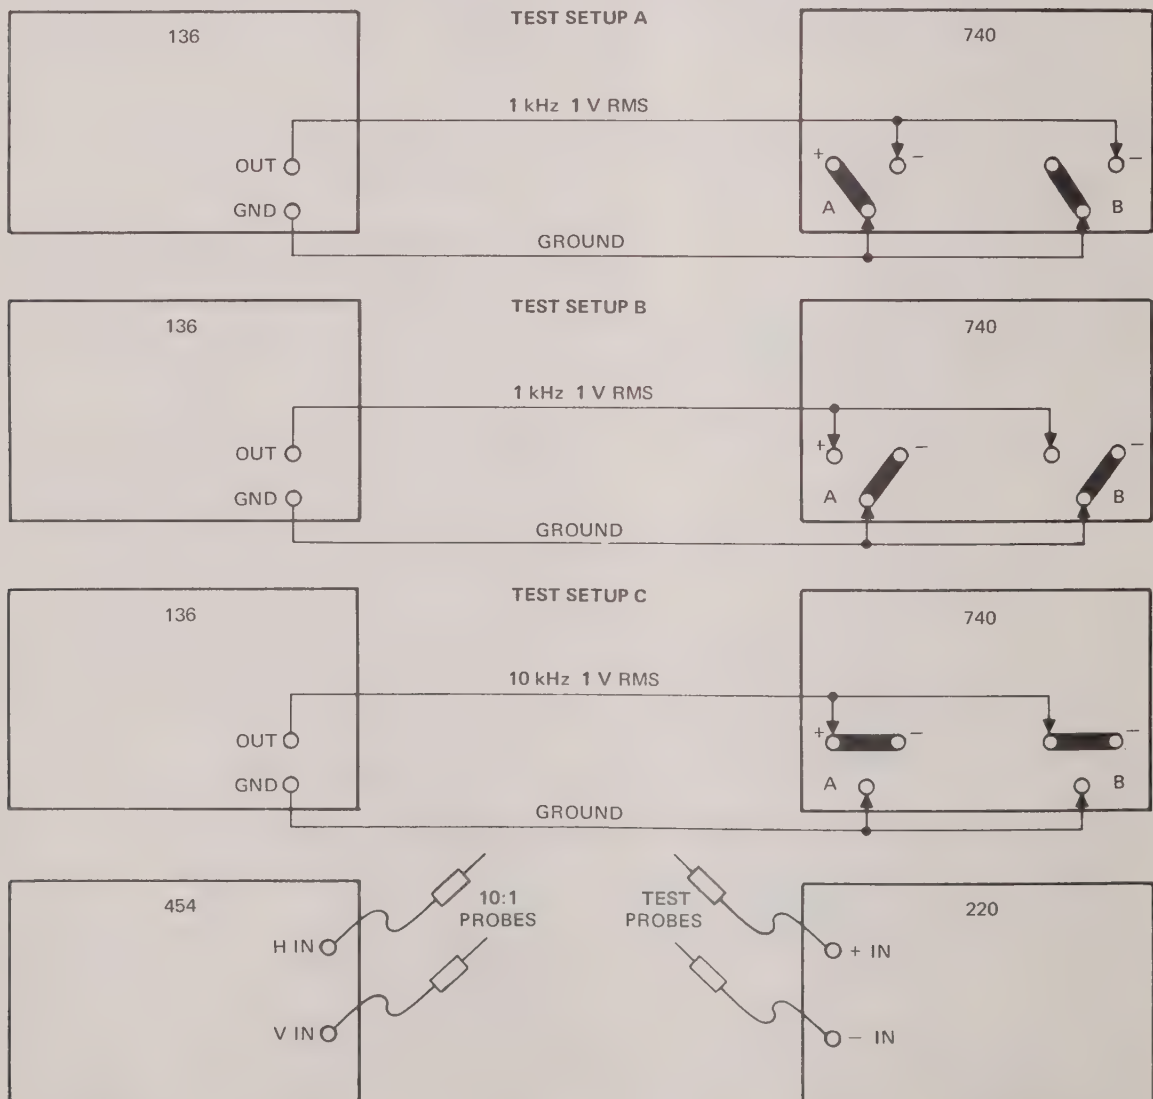

Figure 4-1. Calibration Set-Up
1. Connect the Model 740 Phase Meter in the test set up illustrated in Figure 4-1[A].
3. With equipment connected as shown in Figure 4-1[A]; hold CALIBRATE switch up (+180.0) and adjust
15. Connect a 1 kHz sine wave, 10 mV rms (28 mV p-p), into each input (Figure 4-1[A]).
26. Apply a 10 mV rms sine wave, 80 kHz, into both channels, using the test configuration shown in Figure 4-1[A].
30. Apply a 1 mV rms sine wave to both inputs, using the configuration shown in Figure 4-1[A] and, while watching the meter readout, vary the frequency from 1 kHz to 10 kHz. Record the reading at 1 kHz and the reading at 10 kHz. Determine the difference between the two readings, taking into account the polarities indicated, and record this as the "error span".
33. Apply a 10 kHz, 10 mV rms, sine wave to both inputs as shown in Figure 4-1[C]; with R1, R5, R92, and R96 shorted out.
36. Remove jumpers from R1, R5, R92, and R96 and apply a 1 kHz, 7 V rms sine wave to the positive input terminals as shown in Figure 4-1[B]. Connect the probes of a dual channel scope, with lissajous capability, between the plus input terminal and test point TP1 of Channel A.
39. With the jumper removed from R1, R5, R92, and R96 apply a 7 V rms 25 Hz sine wave to both inputs as shown in Figure 4-1[C].
46. Check plus and minus full scale calibration applying the same sine wave, 1 kHz at 1 V rms, to both inputs as shown in Figure 4-1[A].